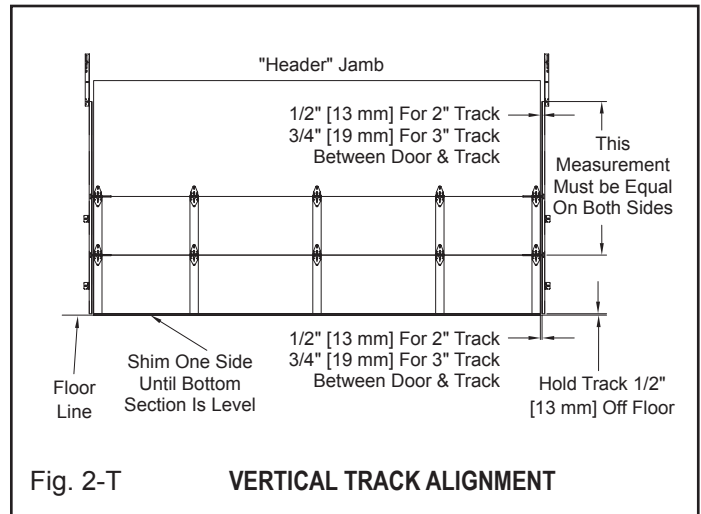
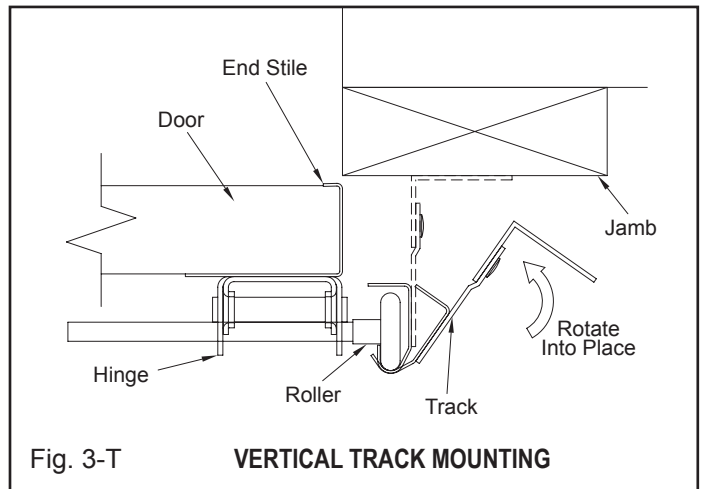
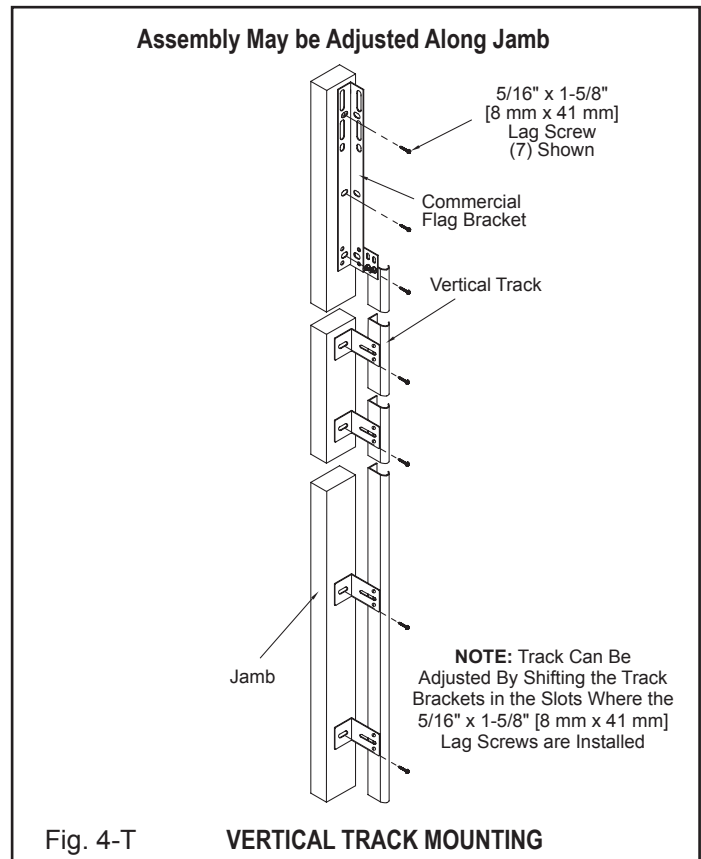

Fig. 2-T
Fig. 3-T
Fig. 4-T
Attach inside bolt assembly to end stile using #14 x 5/8" [6 mm x 16 mm] hex head sheet metal screws. The slide bolt must rest against the top of the engaging slot (Fig. 4-S).
Step 1: Vertical Track. Center bottom section in opening on inside of garage. Level section by shimming low side (Fig. 2-T). Leave shims in place until door install is completed. Install the vertical track on opposite side of where block was placed, over the two rollers of the bottom section with a twisting motion (Fig. 3-T). Raise track 1/2" [13 mm] off the floor, and screw 5/16" x 1-5/8" [8 mm x 41 mm] lags (wood jambs), or self-drilling screws (steel jambs) through bottom mounting bracket (Fig. 4-T). Adjust track sideways to allow 1/4" [6 mm] end play in roller about 1/2" [13 mm] (2" track) or 3/4" [19 mm] (3" track) from edge of track to edge of door (Fig. 2-T). Plumb vertical track and put at least two lags or sheet metal screws in the mounting brackets at the top of the door. Final adjustment will be made after door is stacked. Measure from the top of the vertical track to the top of the bottom section and set the opposite track at exact same height repeating above procedure (Fig. 2-T). Since the bottom section is level, then the vertical tracks must be level. **Make sure bottom rollers do not come out of the bottom of the track.**
Step 3: Finishing Vertical Track. Set the top of the vertical tracks so that there is 1/4" [6 mm] end play in the rollers, about 1/2" [13 mm] (2" track) or 3/4" [19 mm] (3" track) from edge of track to edge of door (Fig. 2-T). Finish attaching vertical track to the wall. If you are mounting to steel jambs, you will have to wait until you can raise the door to finish attaching vertical tracks.